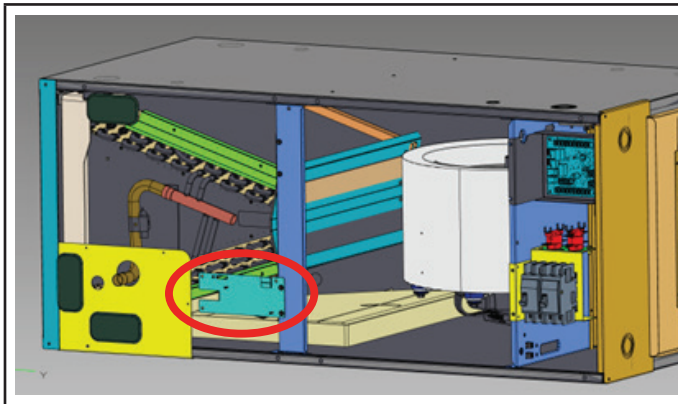

FIGURE 27
- 3 - With air handler unit panels removed, install sensor bracket assembly to the unit by lining up holes in the center support bracket as shown in FIGURE 27. Note: sensor should be facing toward the inside of the unit.